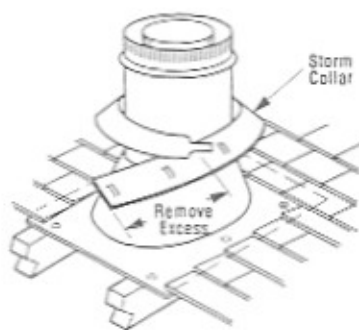

Figure 20
**H.** Install the storm collar, supplied with the flashing, over the vent/flashing joint. Wrap the storm collar around the vent noting which locking groove closely aligns with the tab (Figure 20). Pencil mark excess material, unwrap and trim excess with shears. Reposition collar, insert tab through both slots, pull tab so that collar is tight around vent. Slide collar down until it meets top of the flashing. Bend tab back over slot. Apply noncombustible caulking or mastic around circumference of the joint and the tab slot area to provide a water tight seal.